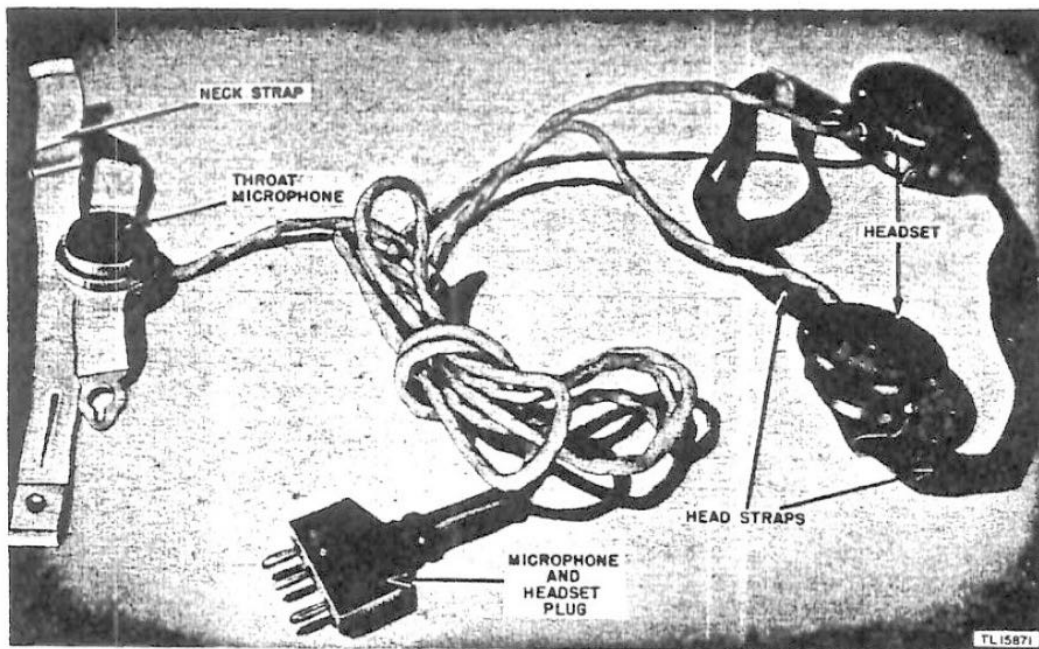
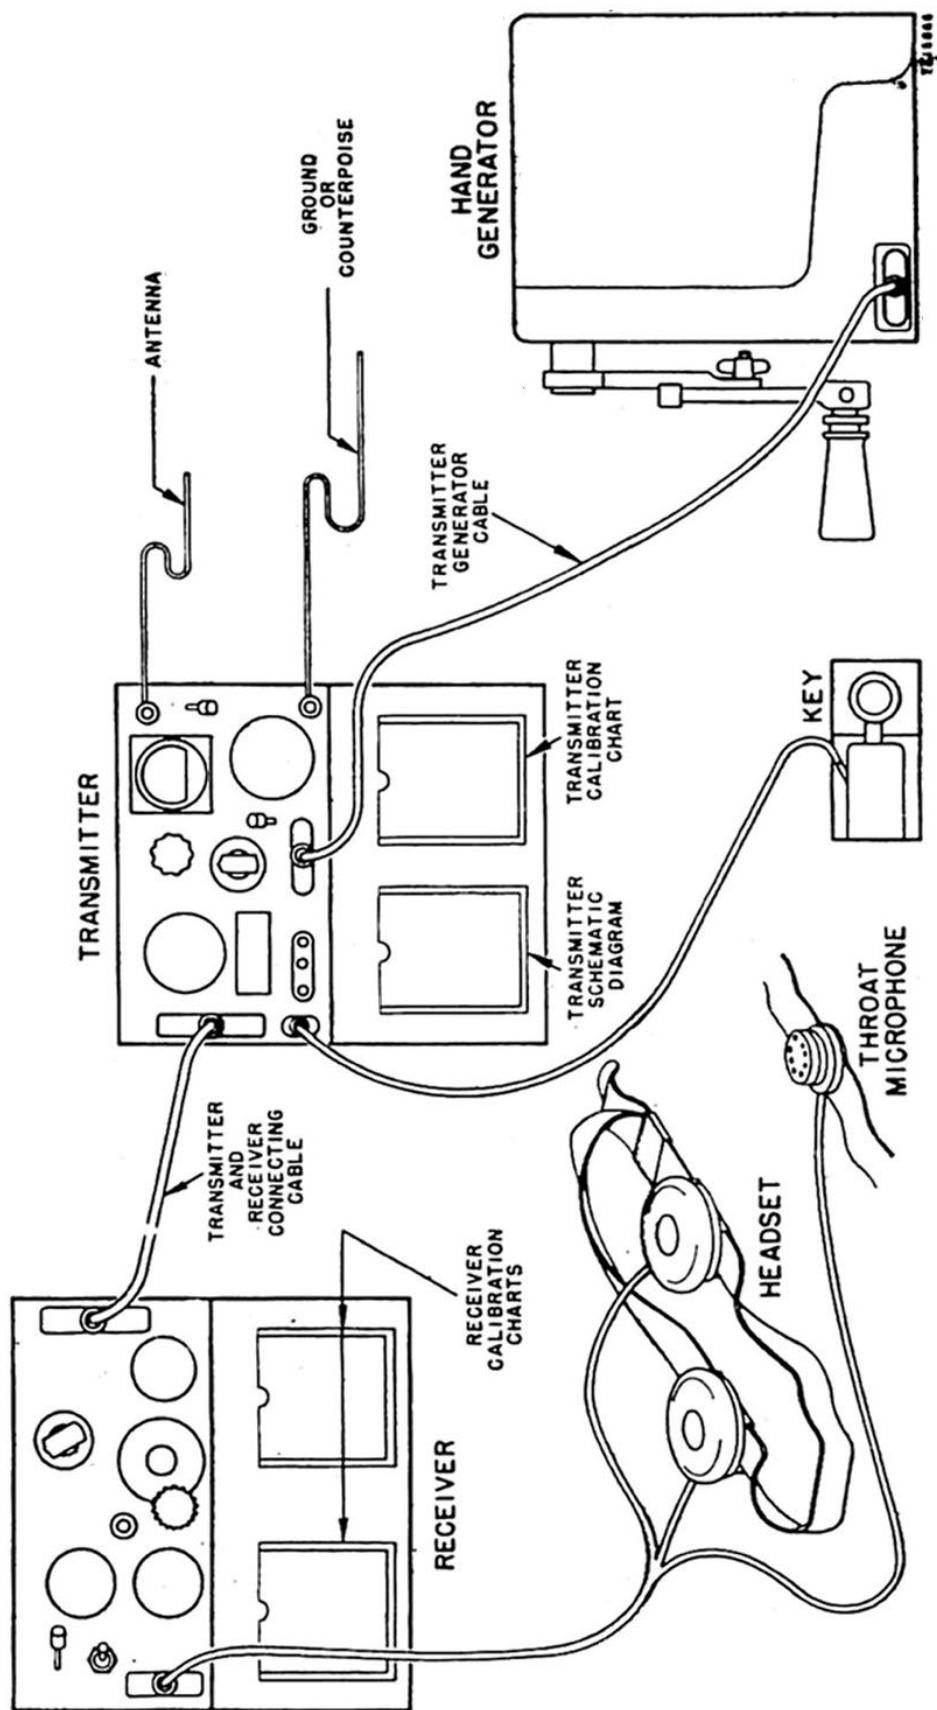
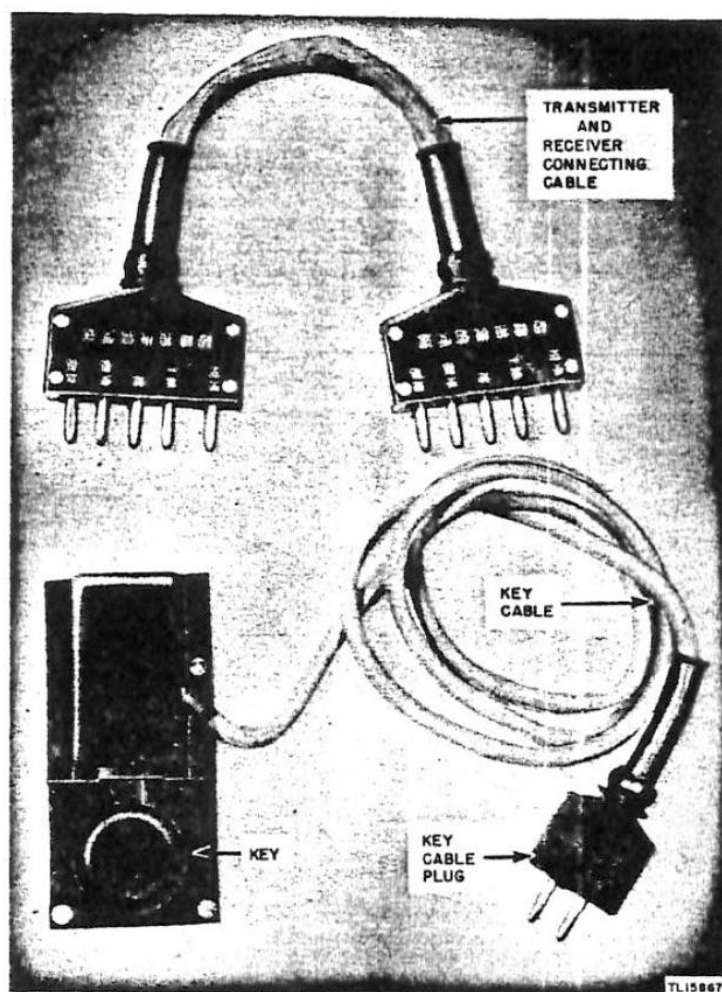
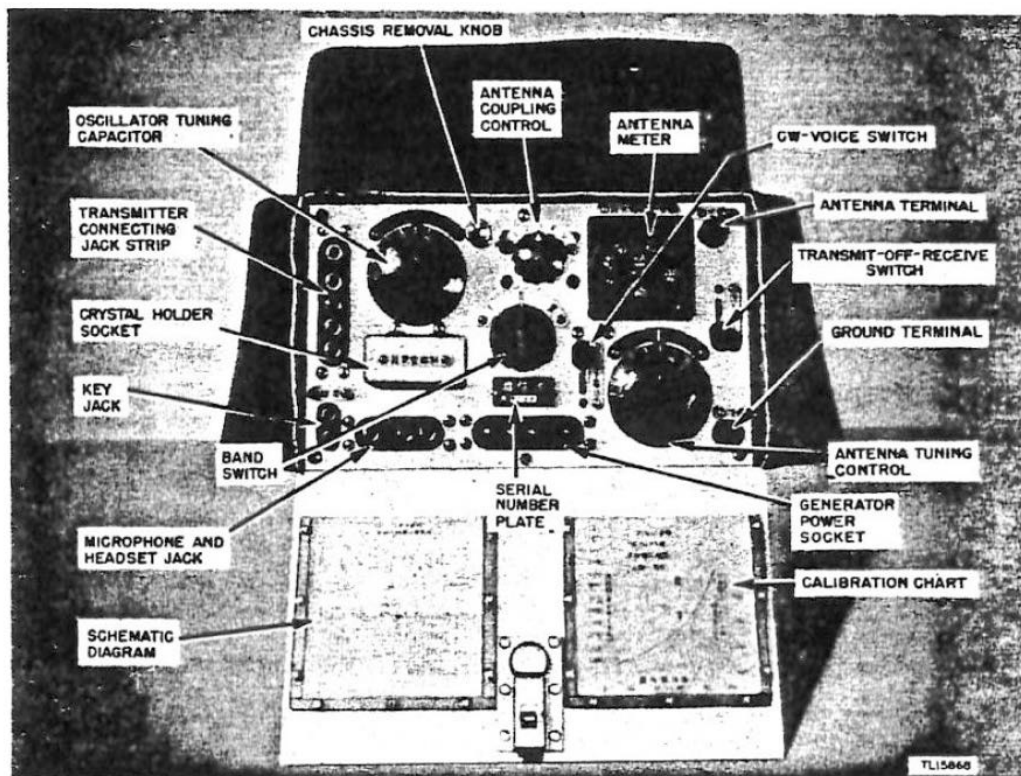

Figure 14. Headset, throat microphone, and plug.
Figure 15. Japanese Radio Set Model 94 Mark 5 Wireless Set, installation of the set.
Figure 16. Transmitter and receiver connecting cable, key and key cord with plug.
Figure 17. Mark 32 Type Transmitter, front view.
a. General. A view of the over-all installation of the set is shown in figure 15, with the relative positions of the component units indicated. The entire set is carried by two men when moving from one operating location to another. If American type batteries are used to power the receiver or the transmitter, it may be necessary to carry the batteries in a separate case such as a musette bag.
b. Antenna. (1) When the transmitter and receiver are used together, the same antenna system is used for both units. Plug the transmitter and receiver connecting cable (fig. 16) into the transmitter and receiver as shown in figure 15. The pin arrangement of the plugs on each end of the cable prevent incorrect insertion of the plugs into the jack strips on the transmitter and the receiver. Connect a long wire antenna from 53 to 88 feet in length to the 空 (antenna) post of the transmitter (fig. 17). Connect the ground or counterpoise wire to the 地 (ground) post of the transmitter (fig. 17).
c. Transmitter. After installation of the antenna system, plug the key plug (fig. 16) into the 鍵電 (key) jack and the 一號F型送受話器 (Mark 1 Type F microphone and headset plug) (fig. 14) into the 器話受送 (microphone and headset) jack. The microphone and headset may be plugged into the receiver 器話受送 (microphone and headset) jack if that position is more convenient. If crystal operation is to be used, pull open the small door on the transmitter front panel (fig. 17) marked 器更變御制 (crystal), and insert the crystal holder.
(2) To install the transmitter with the 機電發回手型號九一 (Mark 19 Type manually operated generator) as a power source, use the transmitter generator cable shown in figure 12. Plug one 紐續接機電發 (generator cable plug) into the transmitter power socket (fig. 17) and the other 紐續接機電發 (generator cable plug) into the transmitter power socket (fig. 17). The pin arrangement of the sockets prevent incorrect insertion of the plugs.
a. **Transmitter.** After the transmitter is installed, it is placed into operation as follows (figs. 17, 20, and 21):